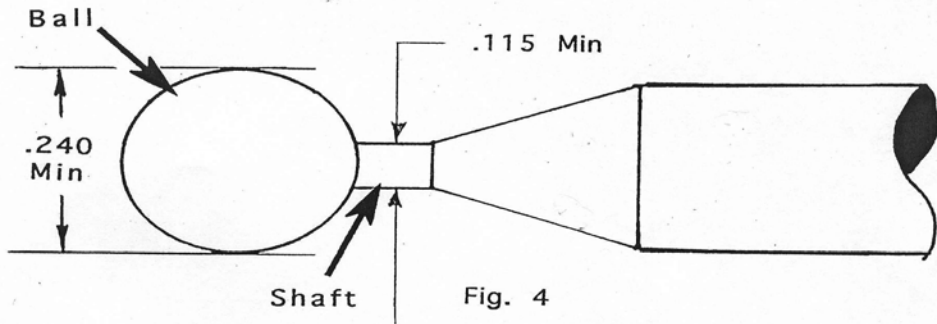

Fig. 4
4. Figure 4 shows maximum permissible wear of the ball and throttle shaft. If either the ball or the throttle shaft is worn beyond the limits specified in figure 4, the throttle shaft of the injector must be replaced. This part is not field serviceable. For repair, please send the unit in to Ellison Fluid Systems, Inc. to the letterhead address.